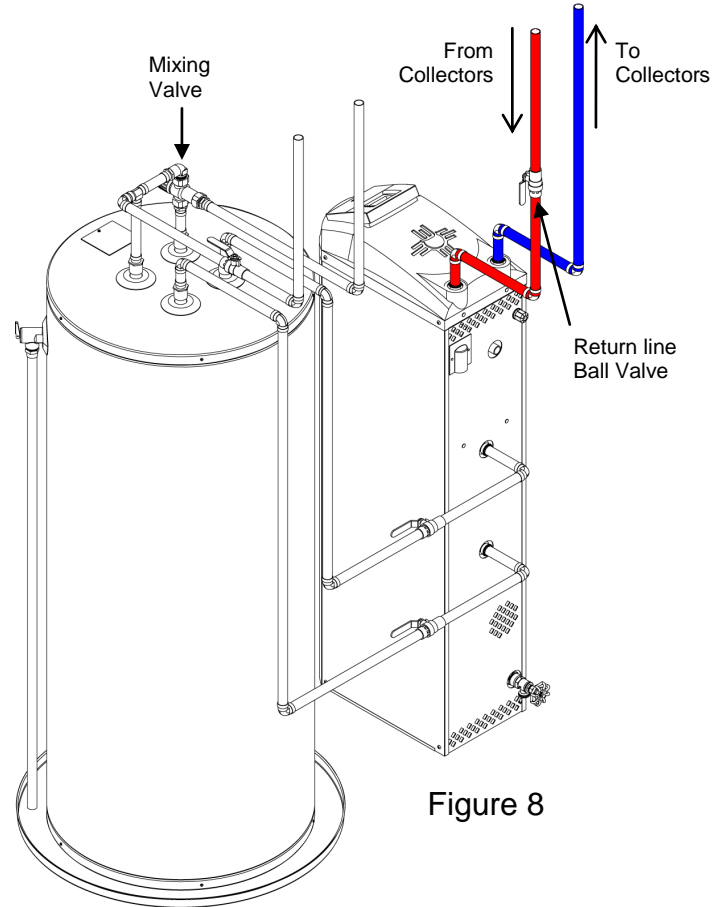

Figure 8
6. Install a Ball Valve in the Collector return line just above the **PROPAC™** unit. (Figure 8)